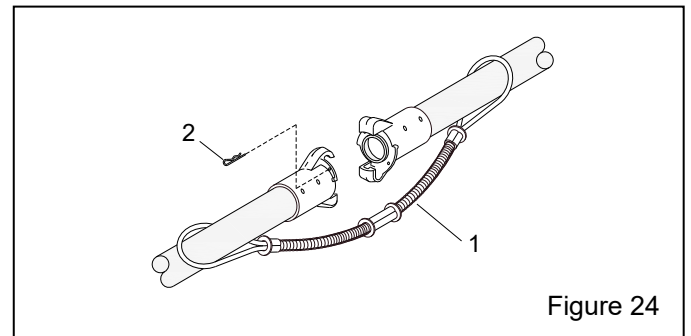

Figure 24
7.1 Hose Safety Accessories – Figure 24
NOTE: Spring-lock pins are affixed to nylon couplings. When connecting two nylon coupling together, make sure the coupling lock pins are at 180 degrees (pins should enter the open hole of the adjoining coupling). One lock pin, as shown in Figure 24, is used when connecting a nylon coupling to a metal coupling, and two lock pins are used when connecting two metal couplings together.